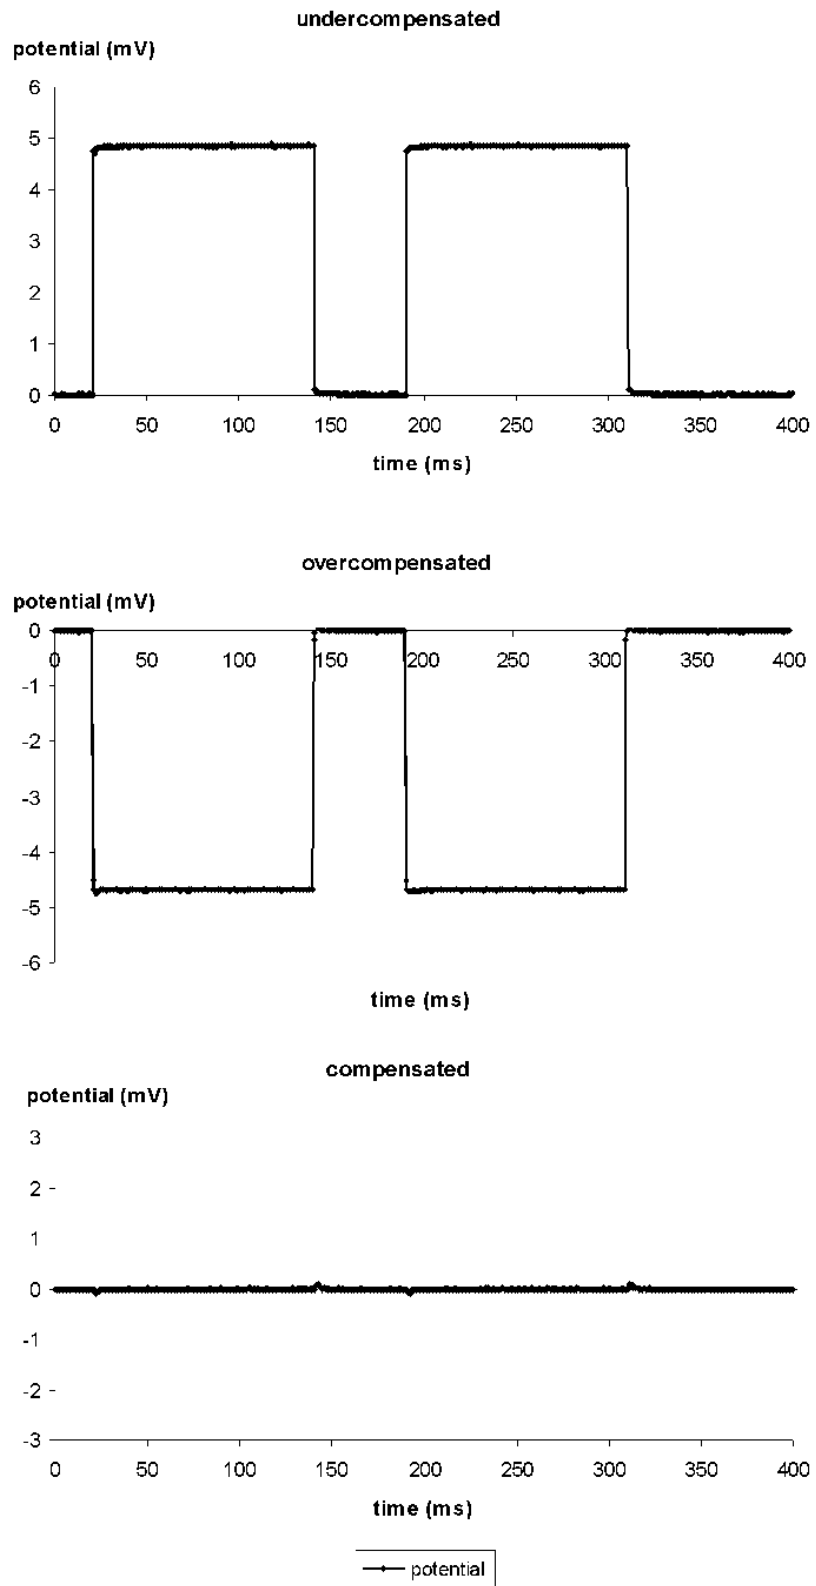

Figure 10: Tuning of the BRIDGE BALANCE using 100 MΩ resistor
With the cell model connected or the electrode in the bath the BRIDGE BALANCE control is turned on clockwise until there is no artifact on the POTENTIAL OUTPUT (see Figure 10).
- o Watch the POTENTIAL OUTPUT at the oscilloscope and adjust the BRIDGE BALANCE as shown in Figure 10 using the BRIDGE BALANCE potentiometer (#21, Figure 1). After adjustment you should see a straight voltage trace without artifacts caused by the potential drop at R_{EL} .
Figure 10 illustrates the BRIDGE BALANCE procedure using a $100 M\Omega$ resistor that represents the electrode. The current stimuli were generated using the gated stimulus unit gated by two TTL pulses. The amplitude was set to $0.5 nA$. In the upper diagram the bridge is slightly undercompensated and in the diagram in the middle it is slightly overcompensated. The lower diagram shows a well balanced bridge (compensated).